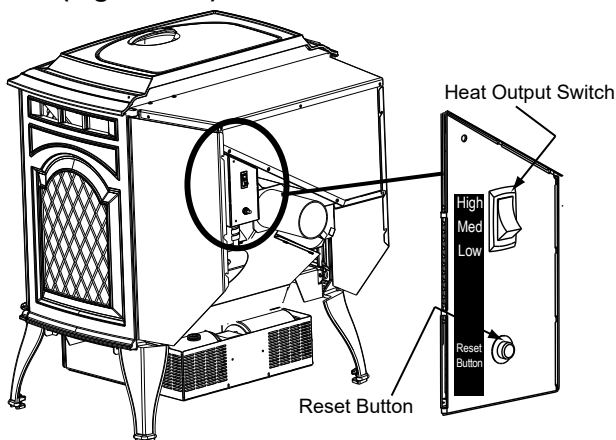
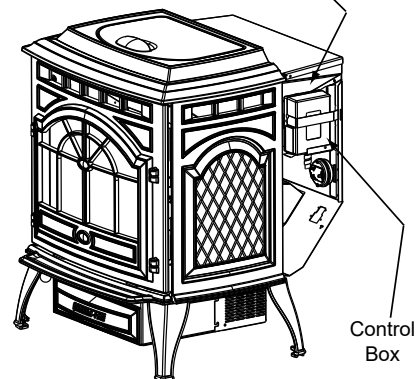

Figure 10.1
Figure 10.2
This appliance is equipped with a heat output control switch that has three settings or burn rates; low, medium and high. The appliance will turn on and off as the thermostat demands. When the thermostat calls for heat, the appliance will start up at the burn rate for which it is set. If the appliance is set at one of the lower settings, it will run quieter but take longer to heat up an area than if it were set at a higher burn rate. Regardless of the burn rate, when the area is warm enough to satisfy the thermostat, the appliance will shut off (**Figure 10.1**).
3. Locate the heat output control switch mounted on the back of the appliance in the upper right corner (**Figure 10.2**). Turn it to the "high" setting by pushing the top of the control switch in and then adjust the thermostat to its highest setting. Remove the right side panel and the red call light located to the left of the control box will be on (**Figure 10.2**). This indicates the thermostat is calling for heat.
3. Occasionally the appliance may run out of fuel and shut itself down. When this happens, the red call light will be on (**Figure 10.2 on page 10**). To restart it, fill the hopper and press the reset button (**Figure 10.1, page 10**). When you press the reset button the red call light will go out. Release the button and the light will come back on. You should see a fire shortly. If not, follow **Starting Your First Fire** on page 10.